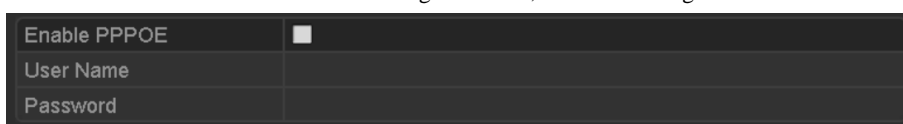

Figure 11. 3 PPPoE Settings Interface
2. Select the **PPPoE** tab to enter the PPPoE Settings interface, as shown in Figure 11. 3.